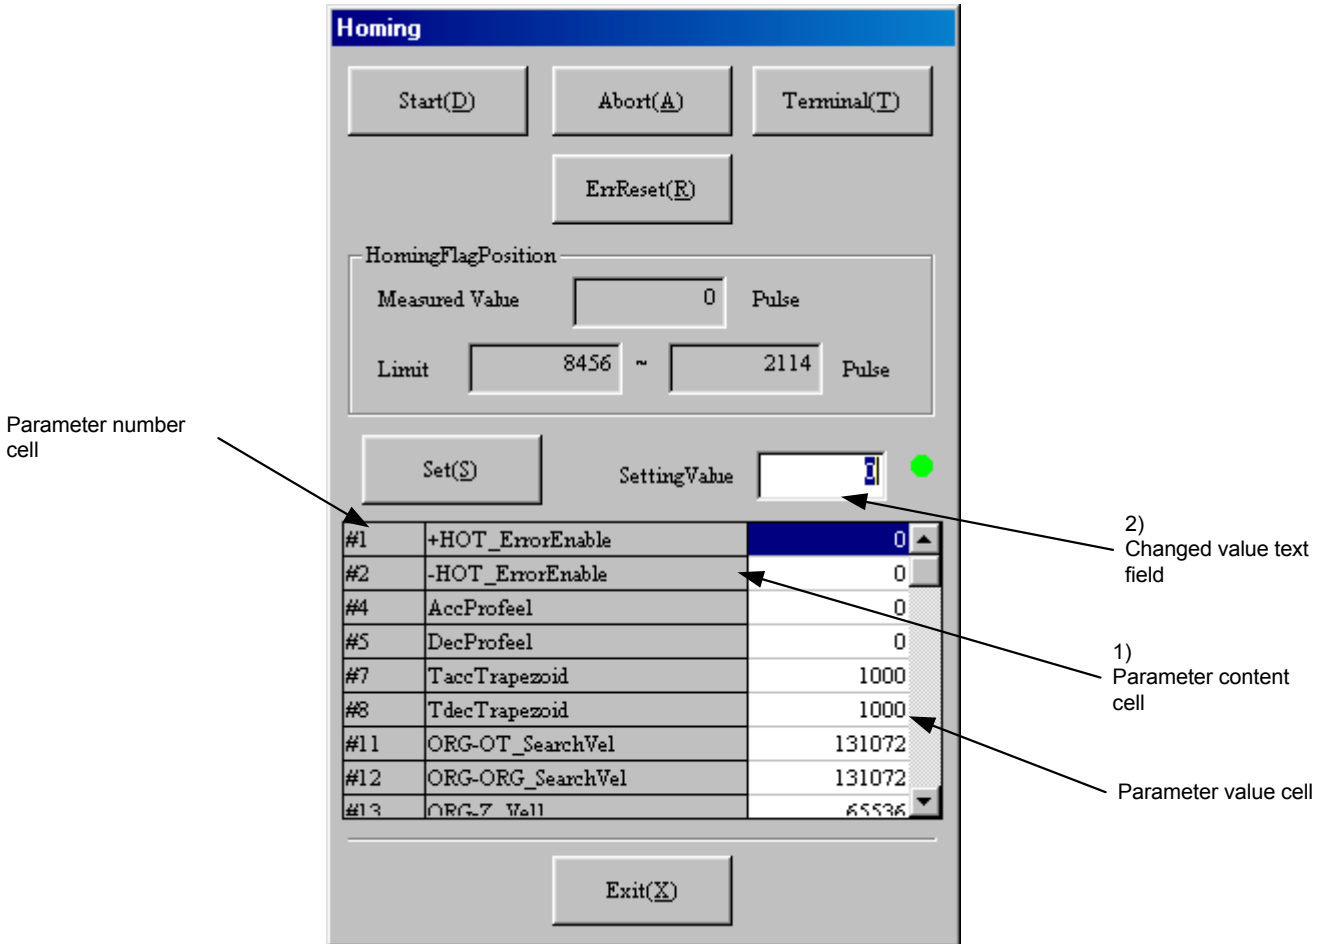

Figure 8.21 “Homing” dialog box
Click “Homing (O)” in the “DriveMenu” dialog box to display the “Homing” dialog box (see Figure 8.21). If the connection with the driver is established, the current values of the related parameters are read and can be edited.